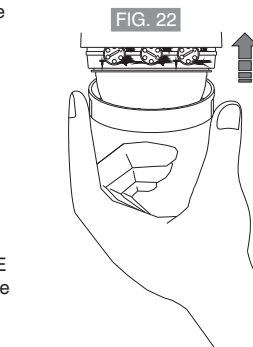

FIG. 22
- Pulling off the attachment ring from the top lens segment by pressing two concave surfaces on the ring for time, lux and sensitivity adjustment (FIG. 14). After setting, fix the cover back to its place (FIG. 22).